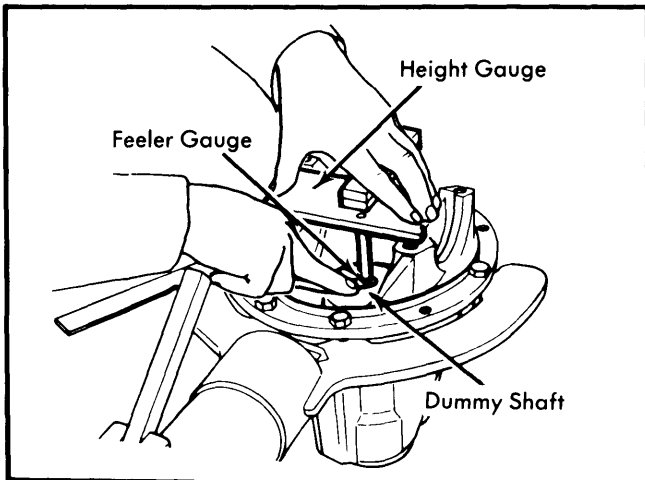

Fig. 5 Measuring Clearance Between Height Gauge and Dummy Shaft
2) Tighten drive pinion nut to specified preload setting. DO NOT overtighten pinion nut. Install suitable drive pinion height gauge on final drive housing and measure clearance between end of gauge and surface of dummy shaft as shown in Fig. 5. To calculate thickness of needed drive pinion adjusting washer, use one of the following formulas: